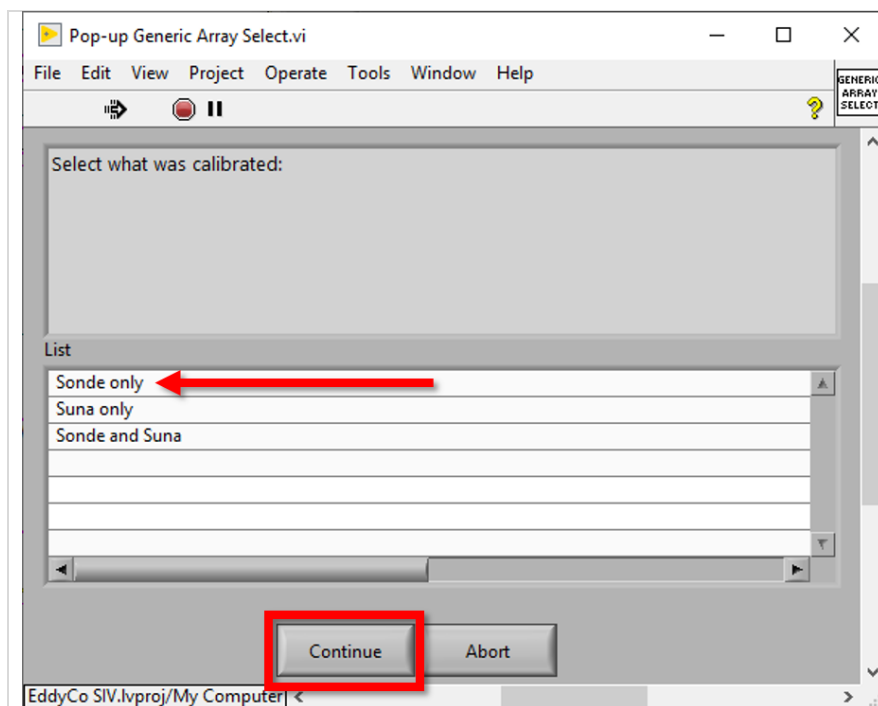

Figure 164. Select Sonde only to upload Multisonde Calibration Data Pop-up Window
**STEP 3** | Select the **Sonde only** to upload the calibration data for the Multisonde (Figure 164). Click “**Continue**” to move to the next step.